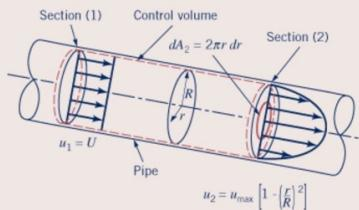

Figure E5.4a
Incompressible, laminar water flow develops in a straight pipe having radius R as indicated in Fig. E5.4a. At section (1), the velocity profile is uniform; the velocity is equal to a constant value U and is parallel to the pipe axis everywhere. At section (2), the velocity profile is axisymmetric and parabolic, with zero velocity at the pipe wall and a maximum value of u_{\max} at the centerline.